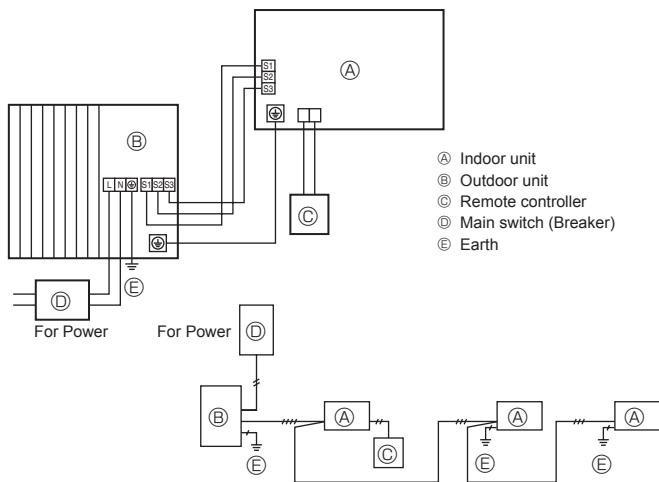

Fig. 7-1
7.1. Outdoor unit (Fig. 7-1, Fig. 7-2)
- ① Remove the service panel.
- ② Wire the cables referring to the Fig. 7-1 and the Fig. 7-2.